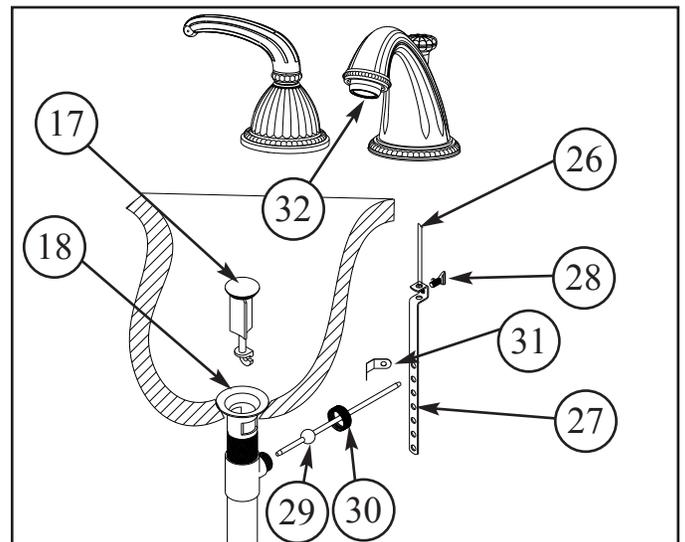

Figure 6
6. Place drain PLUG (17) into FLANGE (18). Insert pop-up ROD (26) through spout and secure to STRAP (27), approximately 1" from end of ROD (26), with SCREW (28). Insert ball ROD (29) into the drain's rod opening, secure with ball rod NUT (30). Adjust the rise of the plunger and CLIP (31) into place. Adjust ball ROD (29) and pop-up ROD (26) so drain will open and close properly. See Figure 6.
7. Remove AERATOR (32) from spout, turn on water supply, and flush both valves until water is clear. Check for leaks and make any final adjustments required. Re-attach AERATOR (32) to the spout.